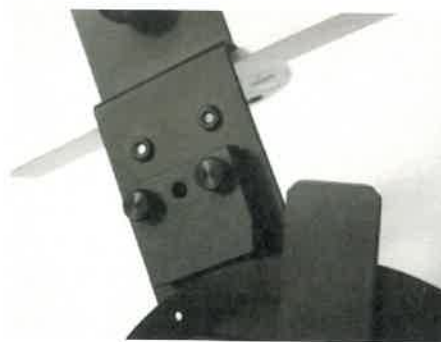

Figure 2: Beveled Stop Piece
3. Mount the Beveled Stop Piece on the bottom of the Light Sensor Arm with the two supplied bolts (see Figure 2). Position the beveled edge so it will hit against the angle indicator on the spectroscopy table.